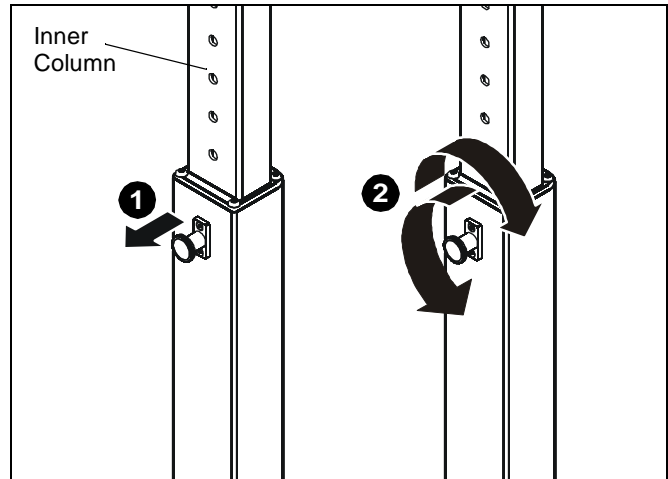

Figure 6
- Adjust the stand or cart to the desired height by slightly lifting the inner column, pulling out knob on the center post and turning 90° in either direction to disengage the locking mechanism. (See Figure 6)
- Raise or lower the center post, then turn the knob 90° either direction to engage the knob and lock the stand at desired height. (See Figure 6)